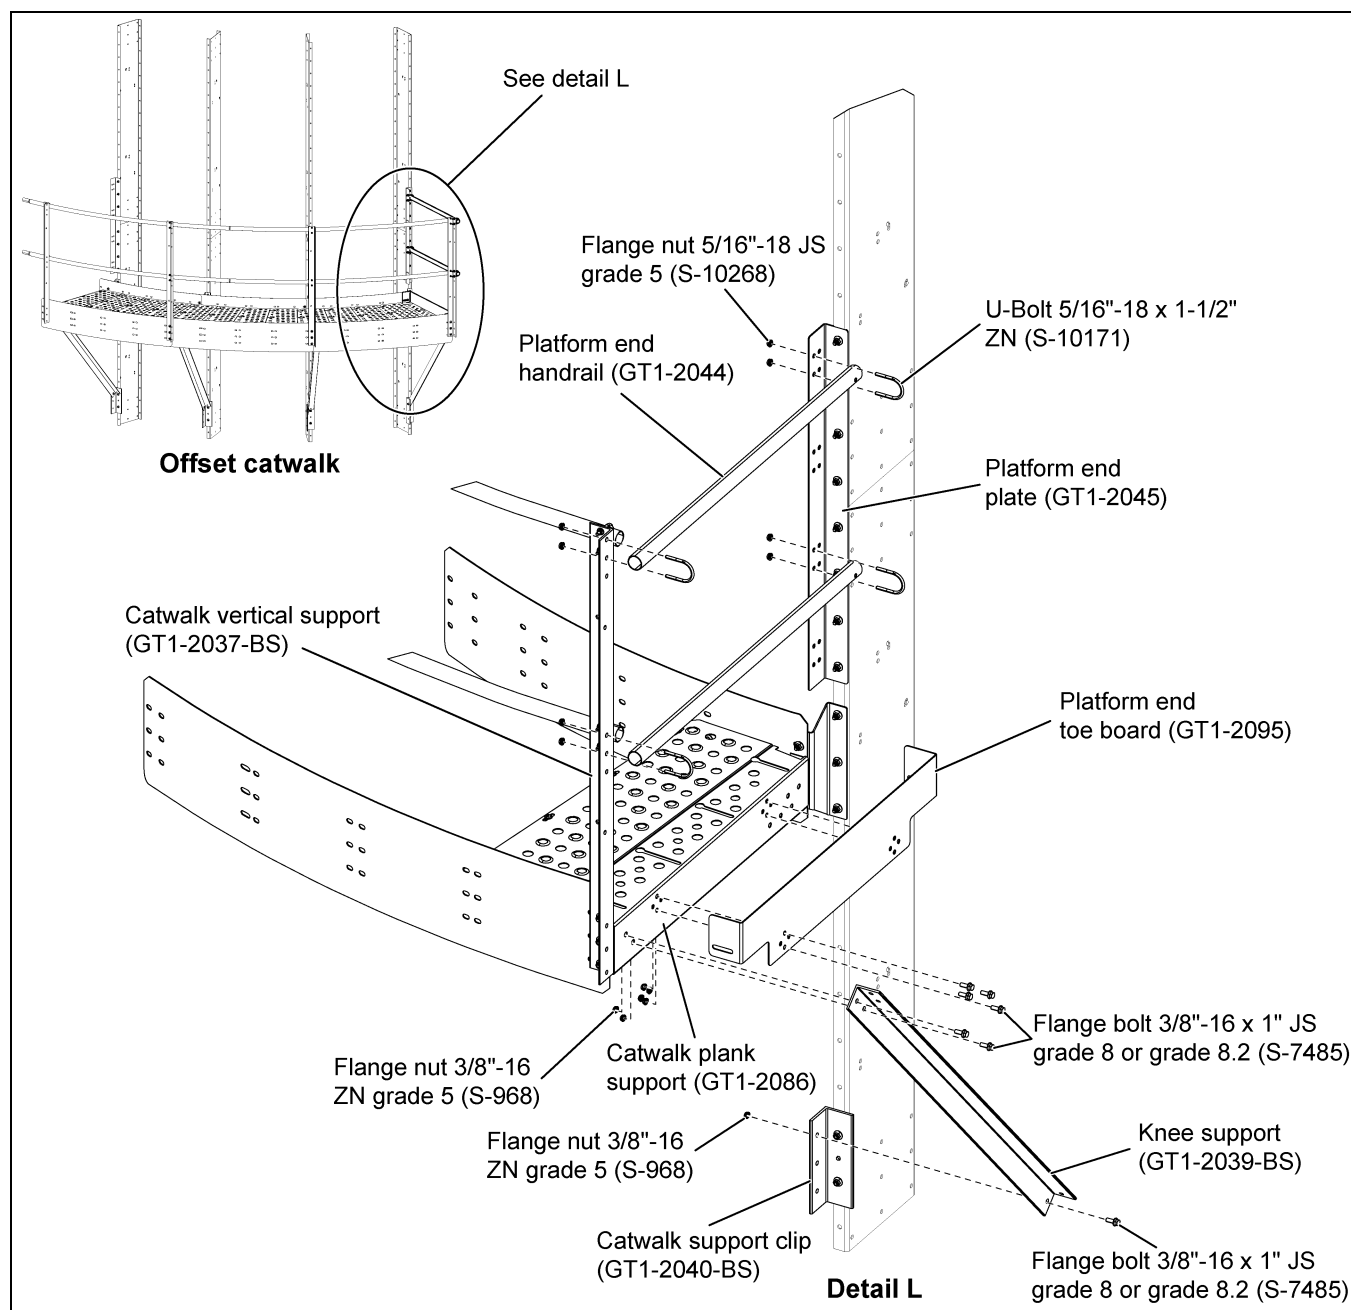

**Figure 6U** Handrail (GT1-2658-170) Installation for Offset and Roof Hatch Catwalks
1. Install the long handrail (GT1-2658-170) to the catwalk vertical support (GT1-2037-BS) using 5/16"-18 ZN U-bolts (S-10171) and 5/16"-18 JS grade 5 nuts (S-10268) to tighten the handrail with vertical post. (See Figure 6U.)